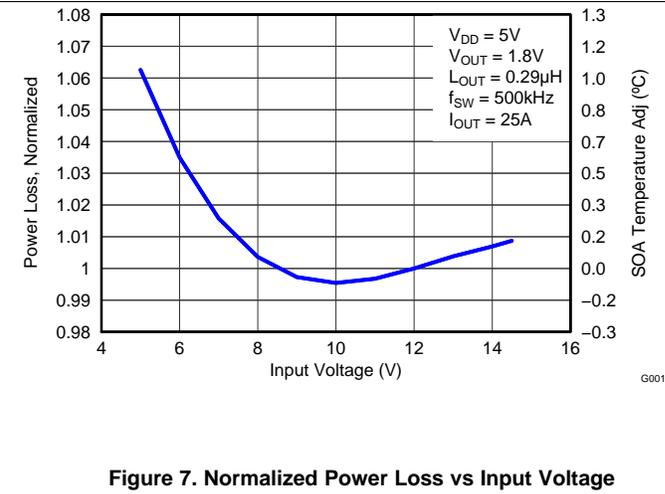

Figure 7. Normalized Power Loss vs Input Voltage
- Normalized Power Loss for input voltage \approx 1.02 (Figure 7)
- SOA adjustment for input voltage \approx 0.3°C (Figure 7)